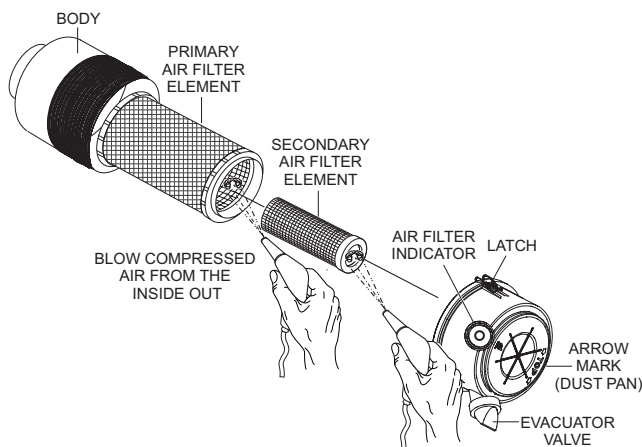

Figure 61. Engine Air Cleaner
This John Deere diesel engine is equipped with a replaceable, high-density, paper air cleaner element (Figure 61). The air cleaner is also equipped with an inner (secondary) element that is used as a backup filter should the primary element become damaged. Check the air cleaner daily or before starting the engine. Replace the air cleaner as needed.
1. Release the **latches** that secure the **air cleaner cover** to the **air cleaner body** (Figure 61).
2. Remove the air cleaner cover (Figure 61) and set it aside.
3. Remove both the primary and secondary **air cleaner elements** (Figure 61).
5. To clean the **primary element** (paper air filter) as shown in Figure 61, tap the filter element several times on a hard surface to remove dirt, or blow compressed air, not to exceed 30 psi (207 kPa, 2.1 kgf/cm²), through the filter element from the inside out.
8. Clean the inside of the air cleaner body (Figure 61).